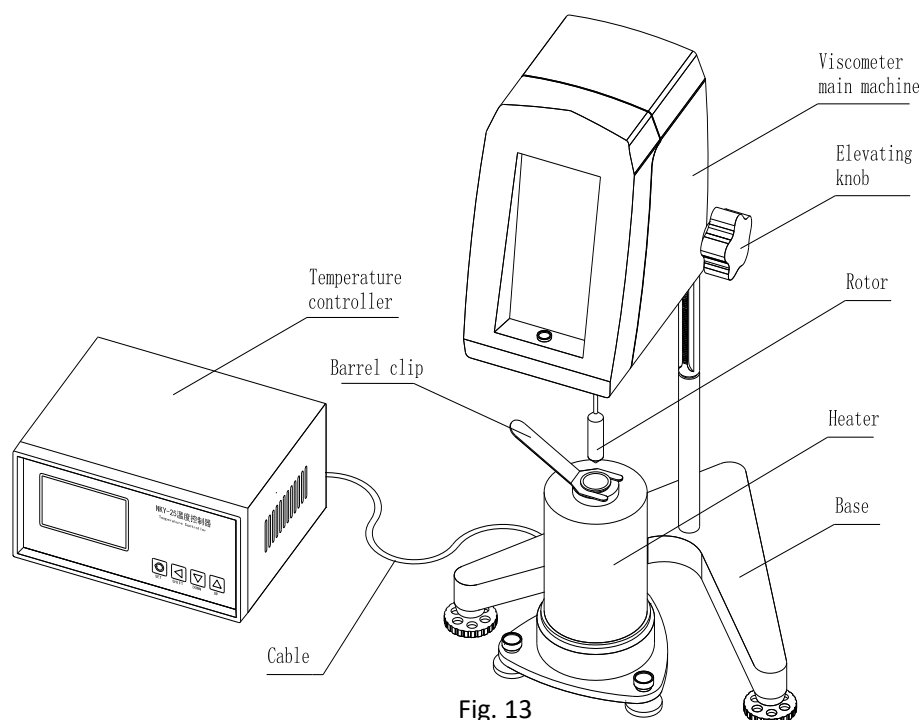
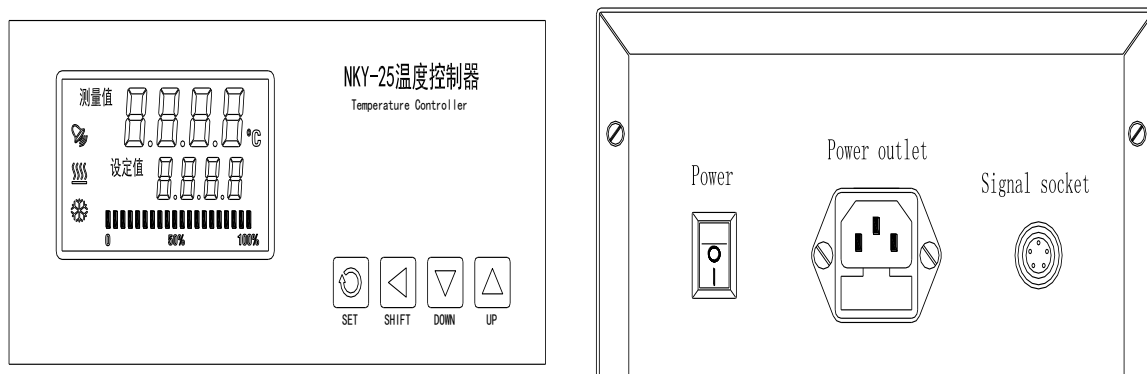

Fig. 13
Fig. 14
(1) Take each part of the machine out of the packing box, and connect the main machine of the viscometer to the base as per the "Instrument installation" mentioned above.
(2) Install the heater under the main machine, regulate the leveling legs of the heater to make the spirit bubble on the heater base at the center, and then tighten the leveling leg tightening nut.
(3) Insert the heater wire to the signal input port on the back cover of the temperature controller, and the well installed shape is shown in Fig. 13. (The wire must be correctly connected by matching the slot with the corresponding position.) The front and back of the temperature controller NKY-25 is shown in Fig. 14.
(1) Fig. 14 shows the front view of temperature controller, the LCD part at the left is the temperature display area, and the right part is the temperature setting area.